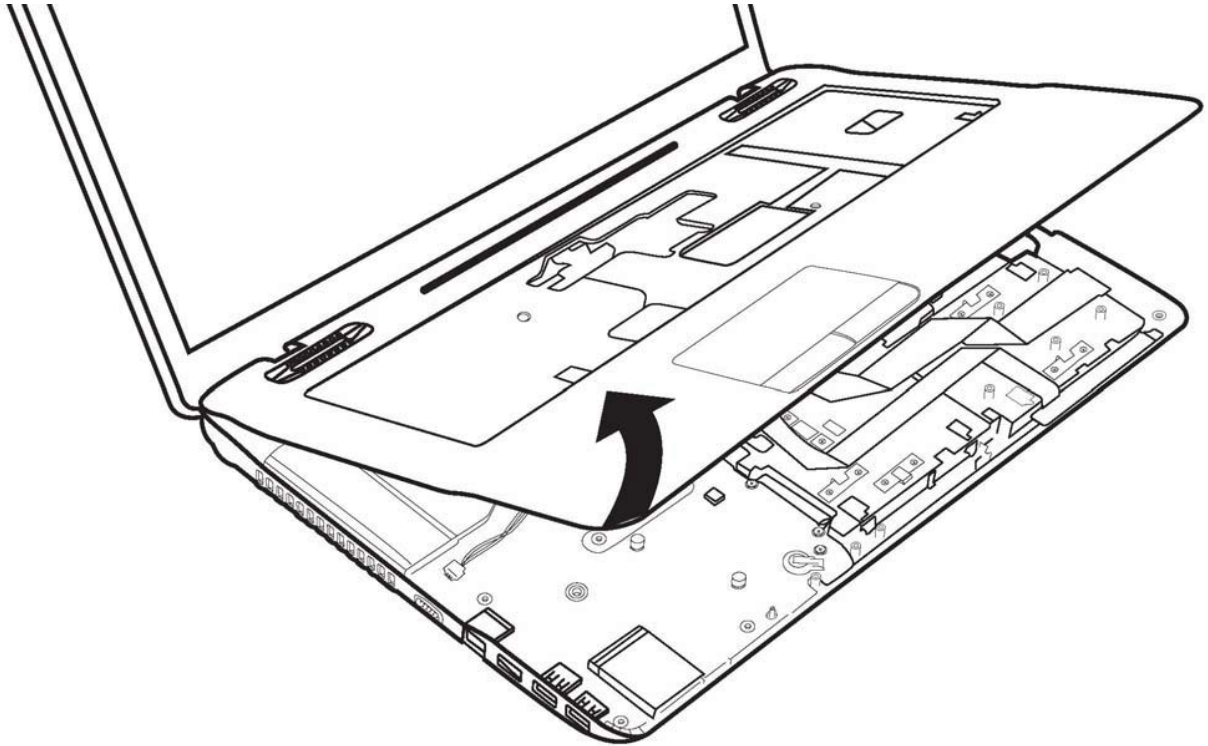

Figure 4-18 Removing the logic upper assembly from the laptop
5. Grab the edge of the opening in the middle of the logic upper assembly and pull up to remove it from the laptop as shown in Figure 4-18.